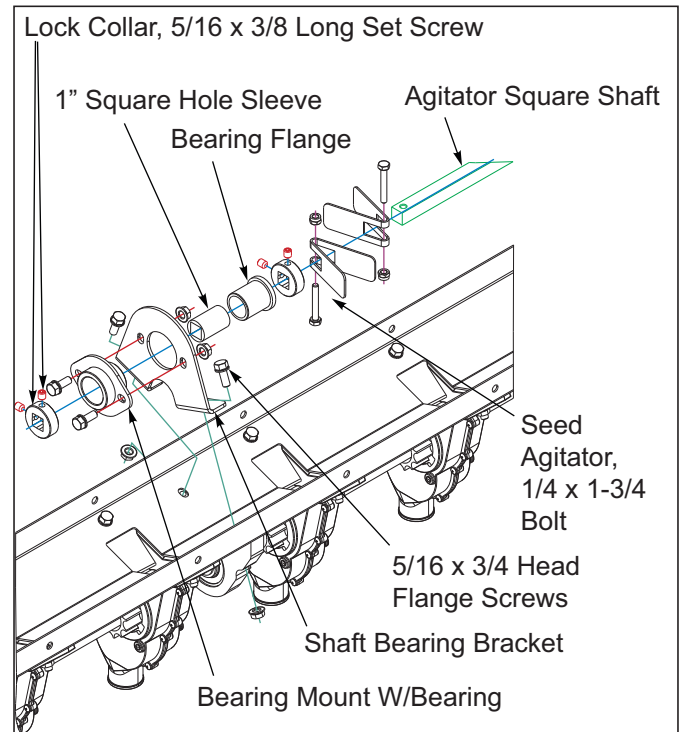

Figure 3-7: Middle Bearing Mount Installation
8. Assemble a bearing mount w/bearing into the agitator shaft bearing bracket with 5/16 x 3/4 flange head screws. The flange will be on the opposite side of the agitator formed ears. This will be the center support for the square agitator shaft. This assembly will be approximately centered in the seed box between the meters. The holes will need to be drilled in the bottom of the seed box. Do not drill the holes until the rest of the agitator is assembled to be able to properly center the bearing *See Figure 3-7*.